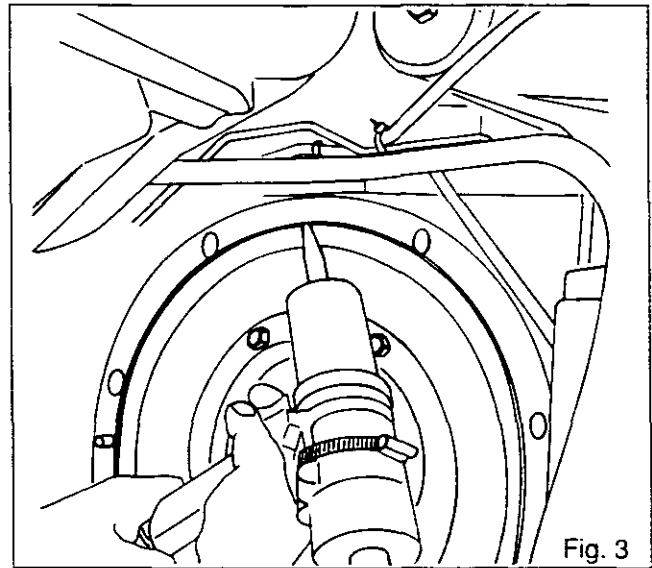

Fig. 3
17. Apply a bead of oil resistant silicone (Silicom type) to the inner edge of the centre housing (Fig.3).